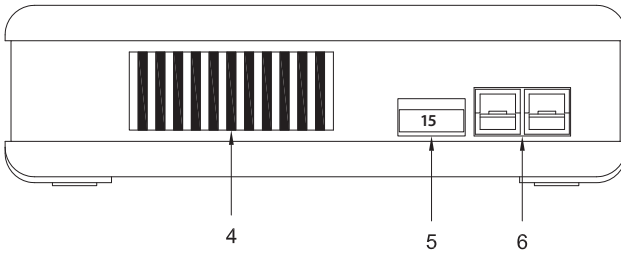
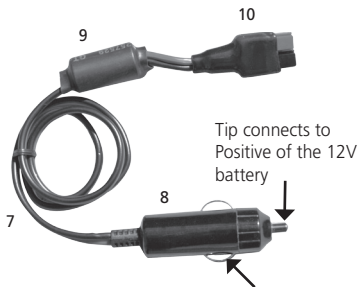

Fig. 2.2: Rear View
Fig. 2.3: DC Input Cord
1. Please refer to 12V Plug Adapter (8) at Fig 2.3. Please ensure that the battery is connected with correct polarity - Positive of the battery to the tip of the Adapter (8) and the Negative of the battery to the spring contacts of the Adapter (8). Reversal of polarity will blow 15A fuse (5). Reversal of polarity may result in permanent damage to the unit and to the load. **DAMAGE DUE TO REVERSE POLARITY IS NOT COVERED UNDER WARRANTY.**
- A detachable 2' DC input power cord (7, Fig. 2.3) has been provided.
- This unit does not have a power ON/OFF switch. The unit will switch ON automatically as soon as 12 VDC power is fed from the battery through the 12V plug adaptor (8, Fig. 2.3).
- Connect the detachable DC input power cord (7, Fig. 2.3) by sliding the mating Battery Modular connector (10, Fig. 2.3) into the DC input connector (6, Fig. 2.2).
- Plug in the 12V Plug Adaptor (8, Fig. 2.3) of the DC input cord into the 12V outlet of the battery supply.